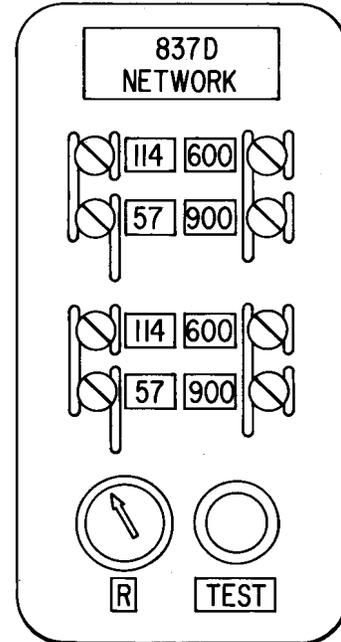

Fig. 1—837D Network—Face Plate View
1.01 This section provides installation and lineup procedures for 2-wire repeatered nonloaded PBX-CO trunks. It includes lineup of an E6 repeater with an associated 830C network at the CO, and lineup of an 837C or 837D network (Fig. 1) at the PBX.